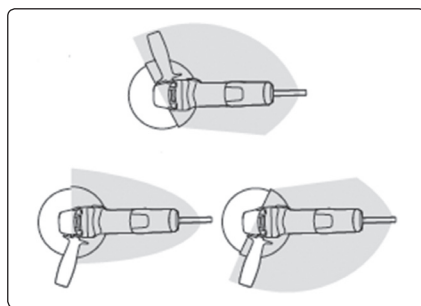

Fig. 5
- **Depending on which part of the disc is exposed, the disc guard must be installed in such a way that the smallest possible part of the disc facing the user is exposed in order to provide the maximum level of protection to the users, see fig. 5. The grey fields shown in fig. 5 indicate the protection zone of the user relative to the orientation of the disc guard respective to the exposed parts of the disc (work zone). In the event that the work zone of the disc is changed, it is necessary to adequately change the position of the disc guard in order to provide the maximum level of protection to the user.**
notch on the neck of the angle grinder so that the tab on the clamp of the disc guard is inside the groove on the neck of the angle grinder, with the clamp of the disc guard seated as low as possible on the neck of the angle grinder. Then turn the disc guard so that the maximum level of protection is provided to the user with respect to the stance of the user and the exposed part of the disc that will be used to make the cut (see fig. 5). Prior to tilting down the lever of the quick coupling system, ensure that the disc guard is correctly seated and then fully fold down the lever of the quick coupling system. Subsequently, using an appropriate assembly tool, firmly tighten the clamp of the disc guard by turning the nut on the bolt of the disc guard so that the disc guard is firmly secured in place for the operation of the angle grinder and simultaneously so that it is possible to tilt open the lever of the quick coupling system in the event that it is necessary to adjust the position of the disc guard. Use your hand to pull on the disc guard to check that the disc guard is firmly secured in place.